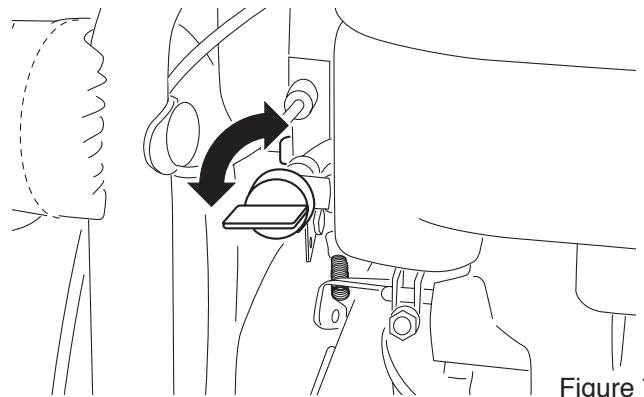

Figure 7
3. Make sure the fuel line valve is turned on (the knob should be horizontal). (See Figure 7)